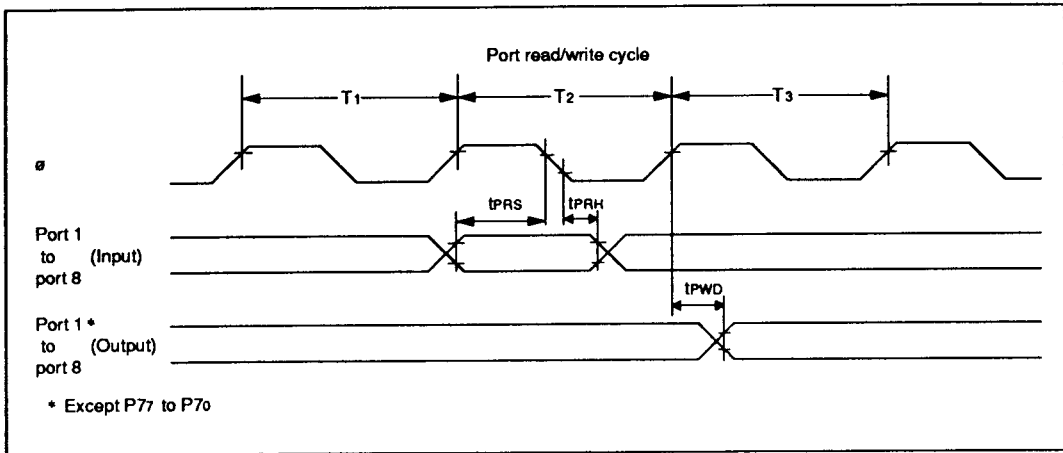

Figure 19-14 I/O Port Input/Output Timing
19.3.4 I/O Port Timing	Figure 19-14